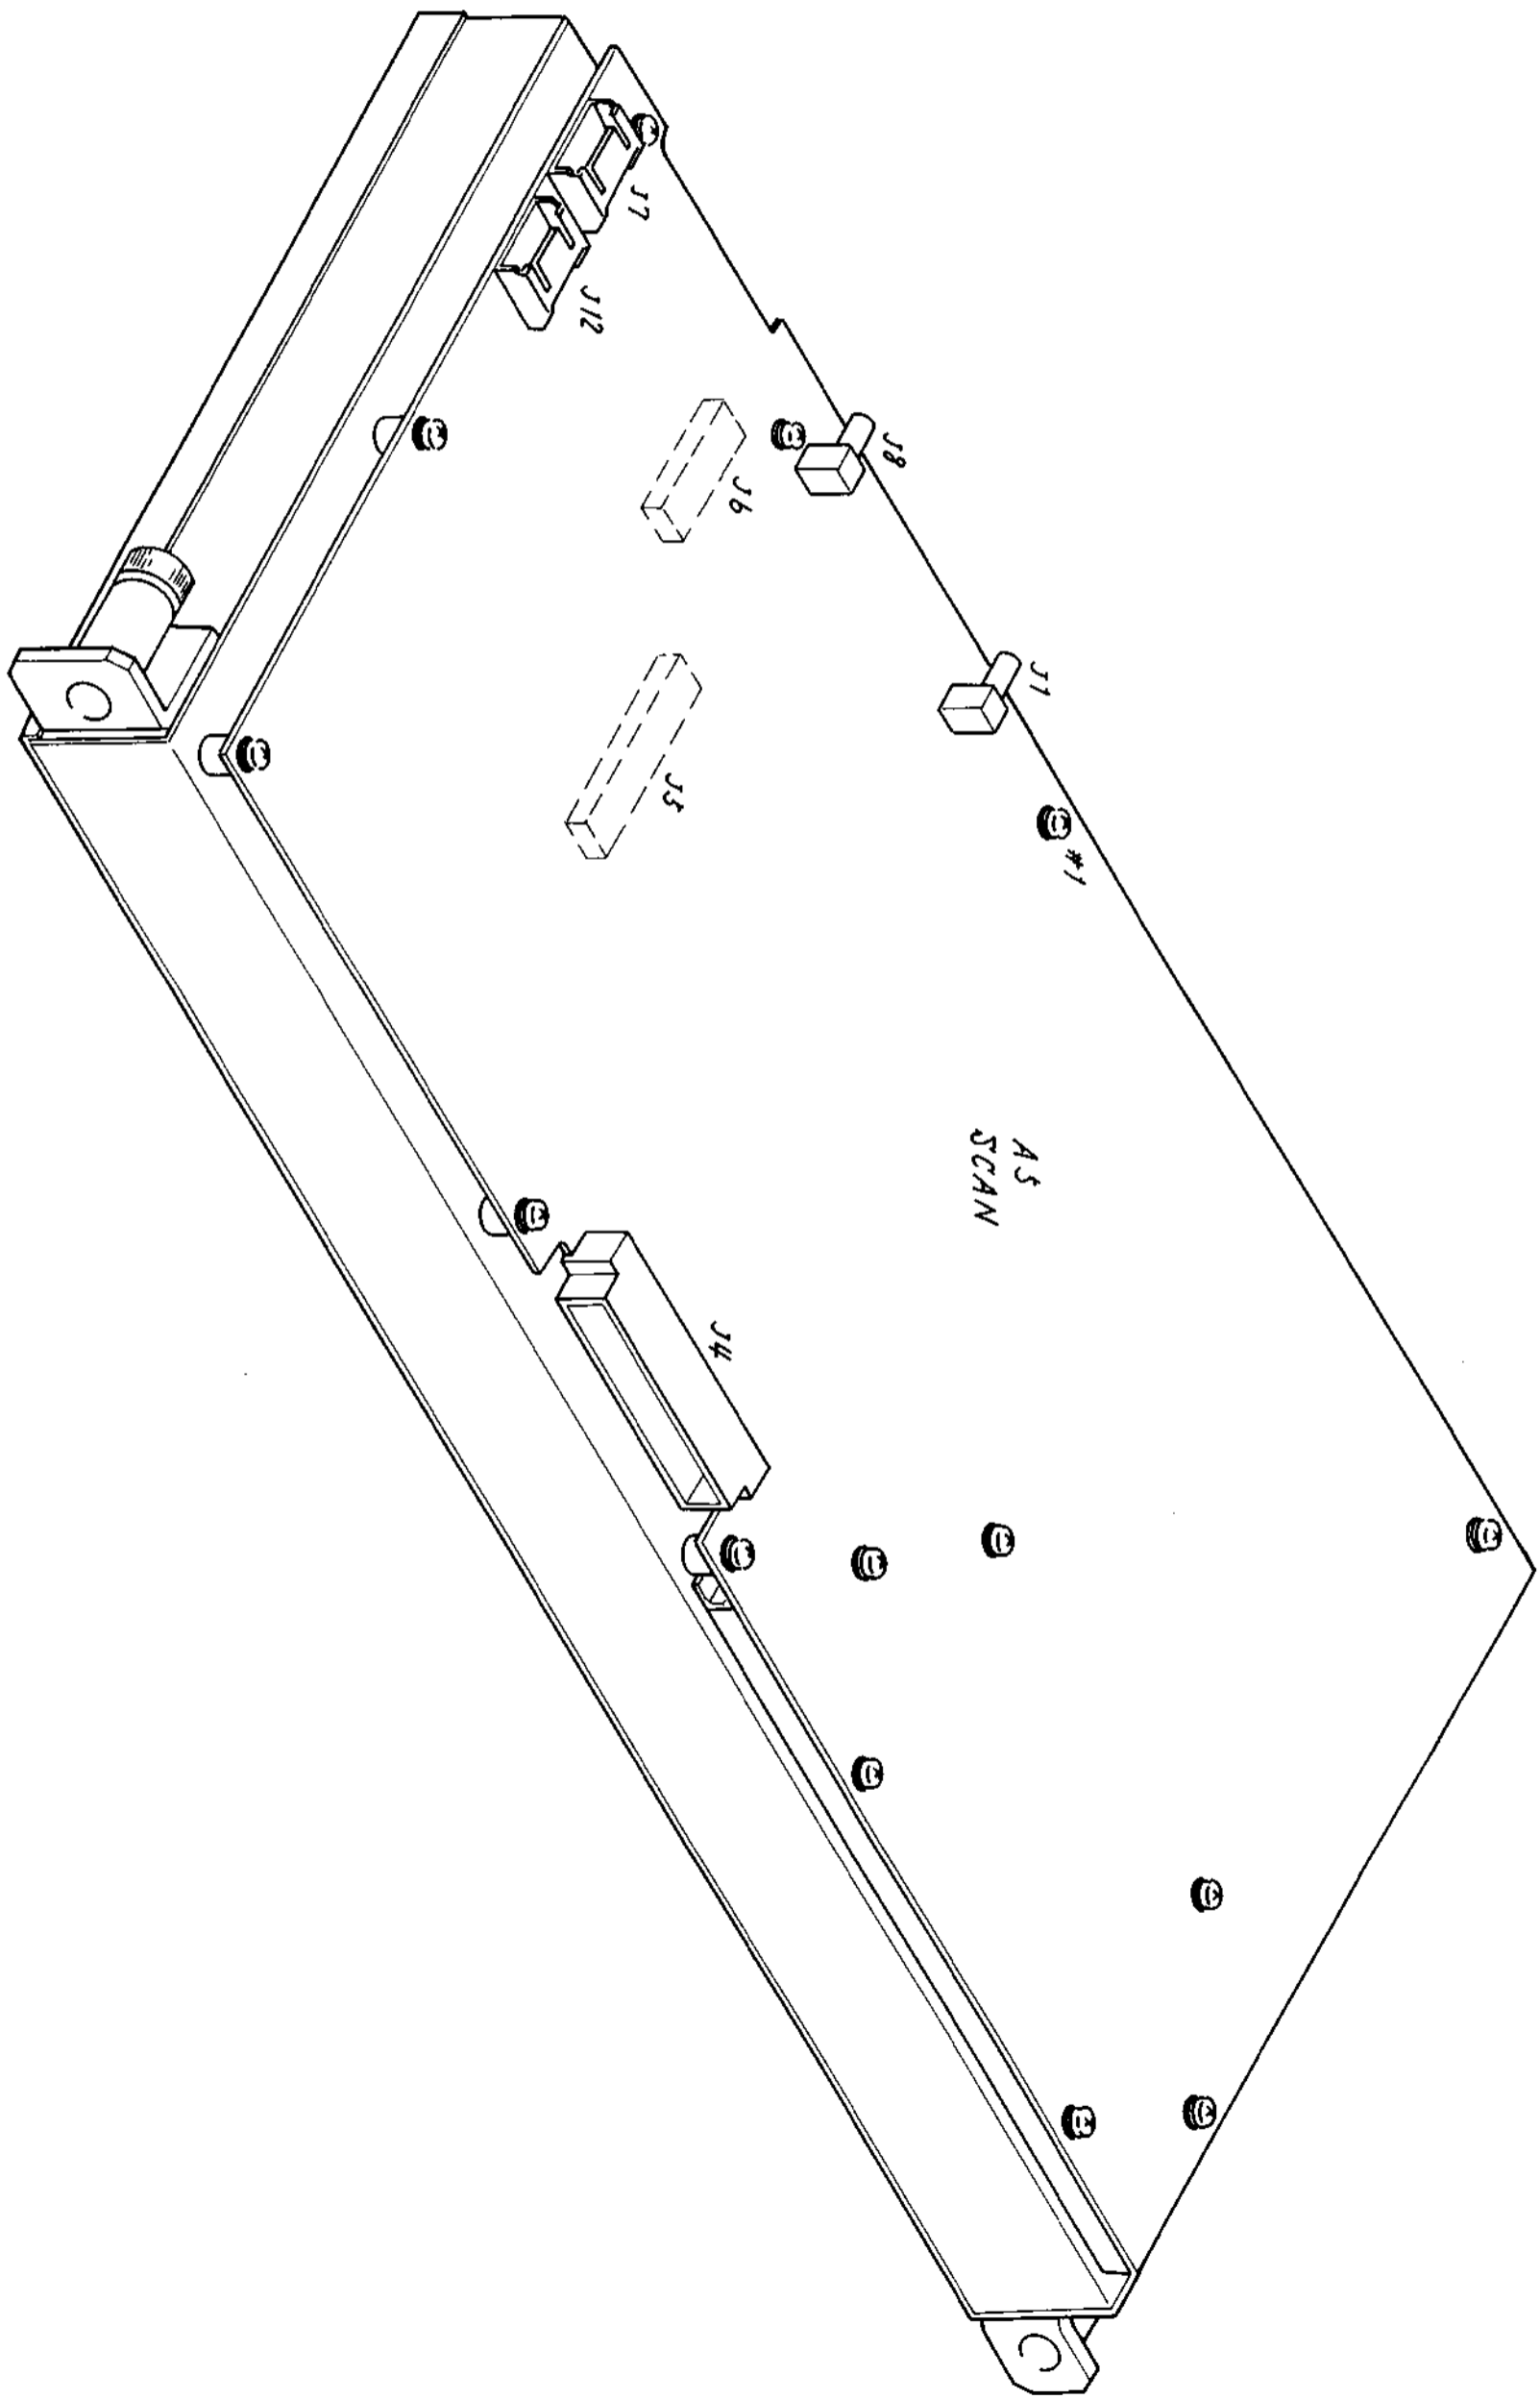

Fig. 5-19 A5&A6: SCAN&IF
(2) Disassembling A5: SCAN (Fig. 5-19)